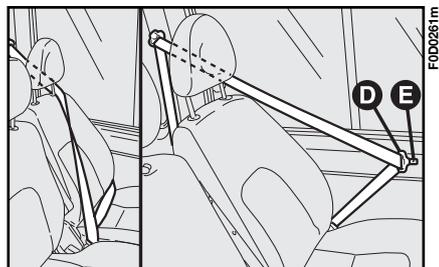

fig. 11
The rear seat is fitted with inertial seat belts with three anchor points and reel for the side and centre seats **fig. 11**.
- **fig. 11** first row left-hand side seat